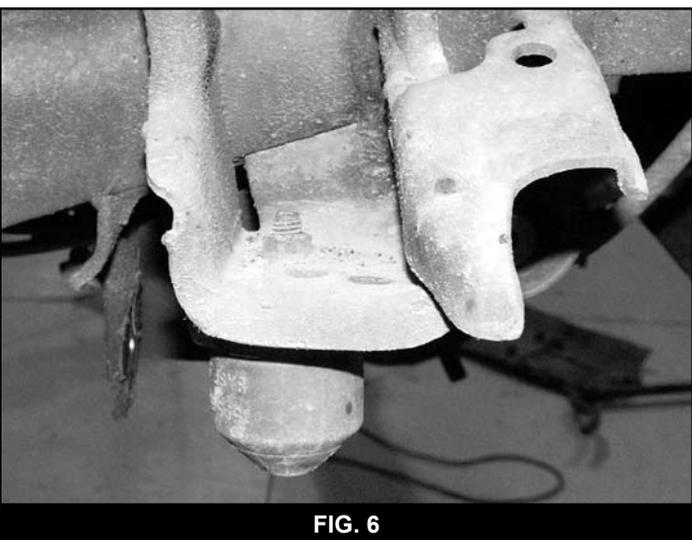

FIG. 6
27. Remove the front bump stops below the rear upper control arm pocket. (Fig. 6) These will be reused.